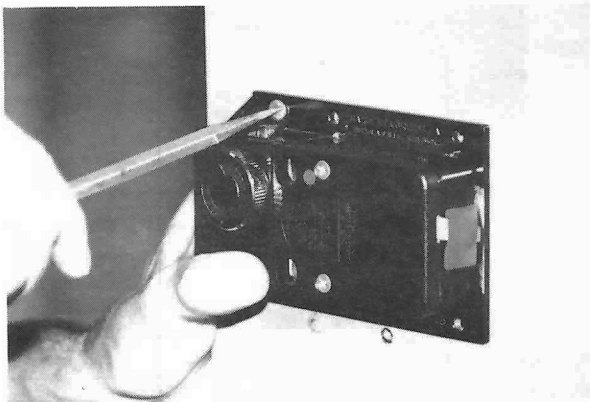

Figure 9
14. Standing on the side of the door where the strike is visible, let the door close to check the bolt-to-strike function. Make any adjustments necessary, then install the remaining #10 screws. Refer to the photograph in Figure 9.